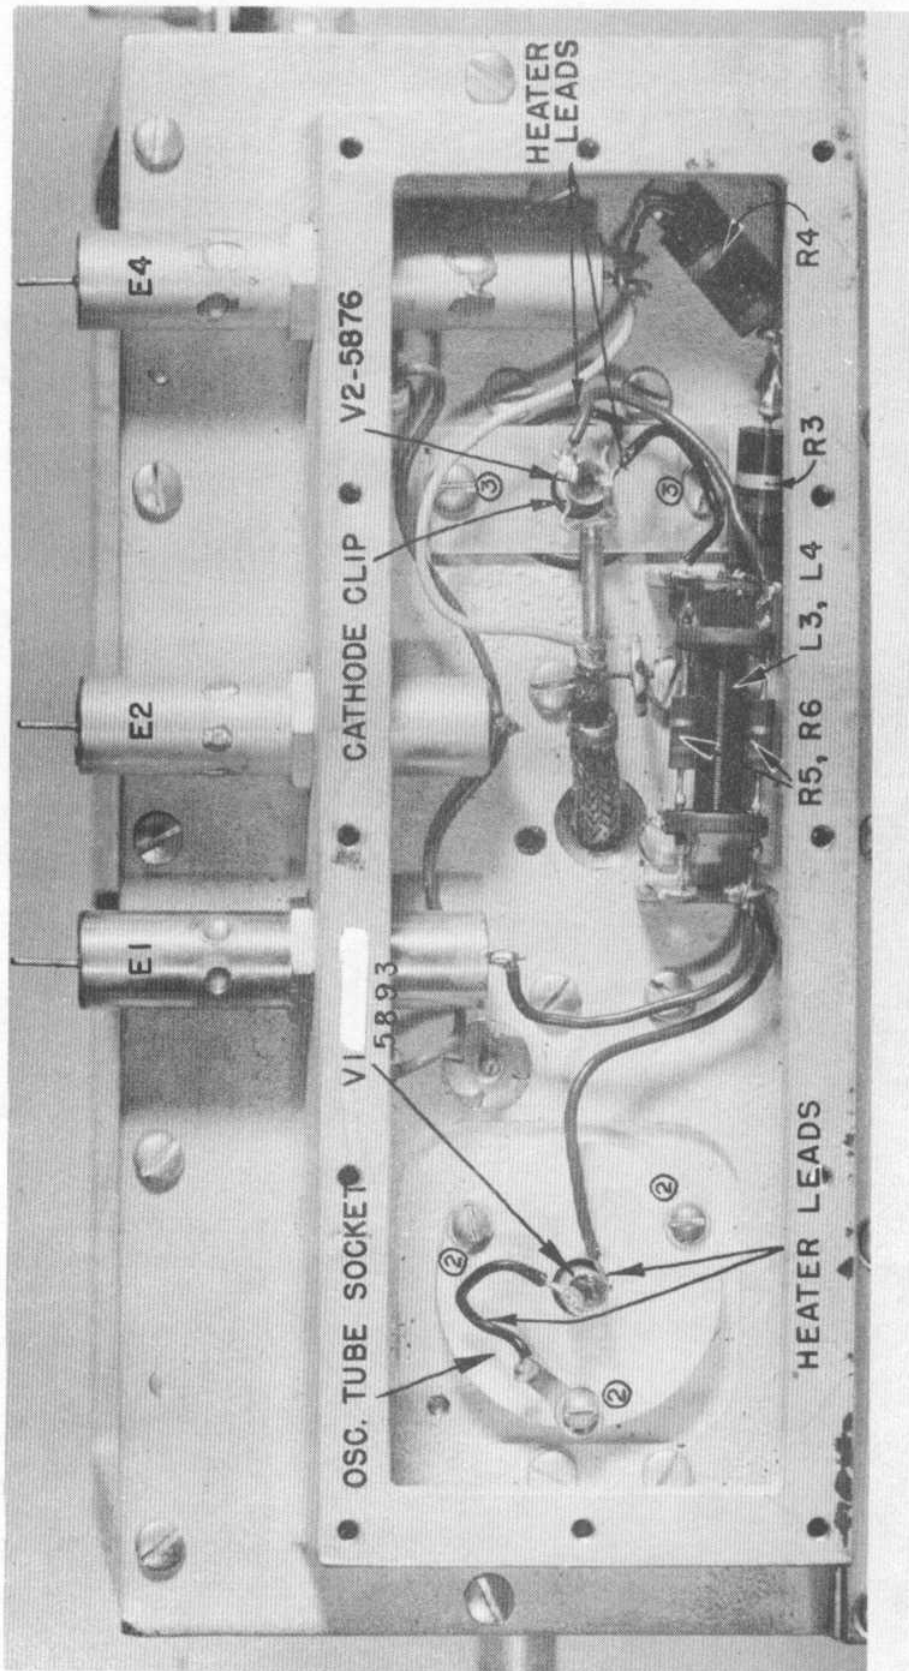

Fig. 4. Tuner Casting Cover Plate Removed To Show Tube Socket Connections
2. Unsolder the cathode heater leads from the tubes, as shown in figure 4.
1. Unscrew the three screws (2, fig. 4) from the oscillator tube socket and remove the socket.
1. Before the power amplifier tube can be removed, the clip, which is the connection from the coupling cable, must be slid carefully off the cathode cylinder, as shown in figures 4, 5.
2. Remove the two screws (3, fig. 4) from the amplifier tube spring plate and lift out the plate and spring (figures 4, 6).
3. Replace the 3 screws (#2, fig. 4) that fasten the socket to the casting. Fasten the heater lead solder lug under one screw.
3. Replace the two screws (3, fig. 4) that fasten the spring plate to the casting.